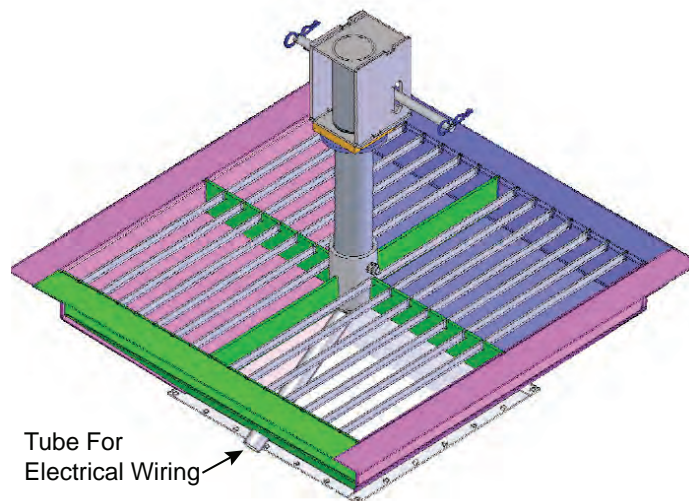
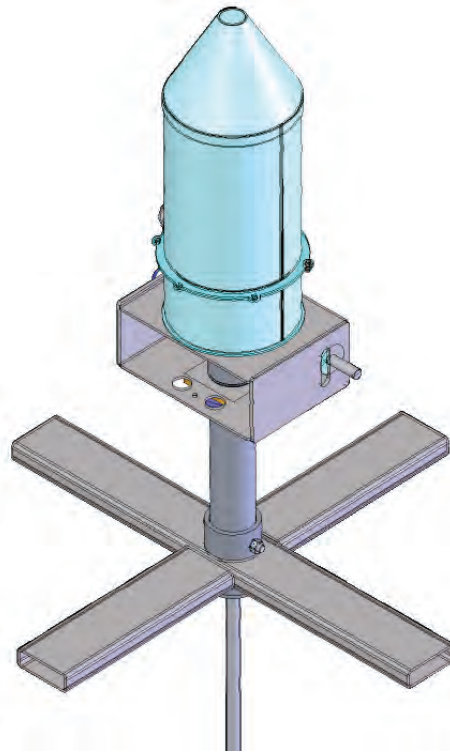

Figure 4-4: Sioux Steel Sump without Collector Ring
Figure 4-5: Base Pivot Kit with Collector Ring Installed
- Sioux Steel Sump without Collector Ring:** If a Sioux Steel Sump is used and a collector ring is not, then this package provides an adapter to fit into the Sioux Steel Sump and provides a place to pin the head of the bin sweep. See Figure 4-4.
- Base Pivot Kit with Collector Ring:** The Base Pivot Kit is designed to be used in bins where a pivot point does not exist or will be replaced. This kit includes a tube with a pivot collar that can be cut to fit and welded in place to route the electrical conduit out the side of the sump. See Figure 4-4. A custom steel structure will also need to be added to the Base Pivot to route the electrical conduit out the side of the sump. The collector ring then fits directly into the pivot collar. See Figure 4-5.